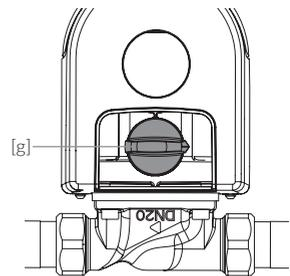

Fig. 9.3
- / Fig. 9.3: The manual shut-off is closed.